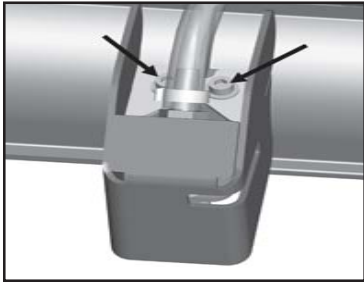
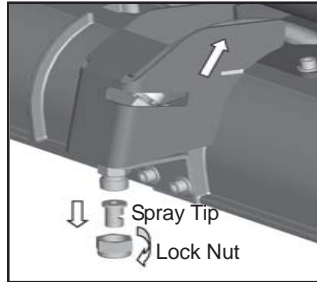

Figure 1
Figure 2
2. Loosen the lower wing nut (**B**) on the adjusting screw (**C**) and adjust the squeegee using the adjusting screw so that the ends of the squeegee blades still have contact with the floor. By turning the adjusting screw (**C**) counterclockwise, the clearance between squeegee blade and floor is **reduced** in the center (Fig. 1). When turning the adjusting screw (**C**) clockwise, the clearance between squeegee blade and floor is **increased** in the center (Fig. 2).
1. Remove the two 6mm screws (figure 1) from the spray jet cover using 5mm Hex Key (Allen wrench). Lift up the cover to expose the spray tip. (figure 2)
2. Remove the Lock Nut (figure 2) from the tip using a 13/16", or 21mm wrench.